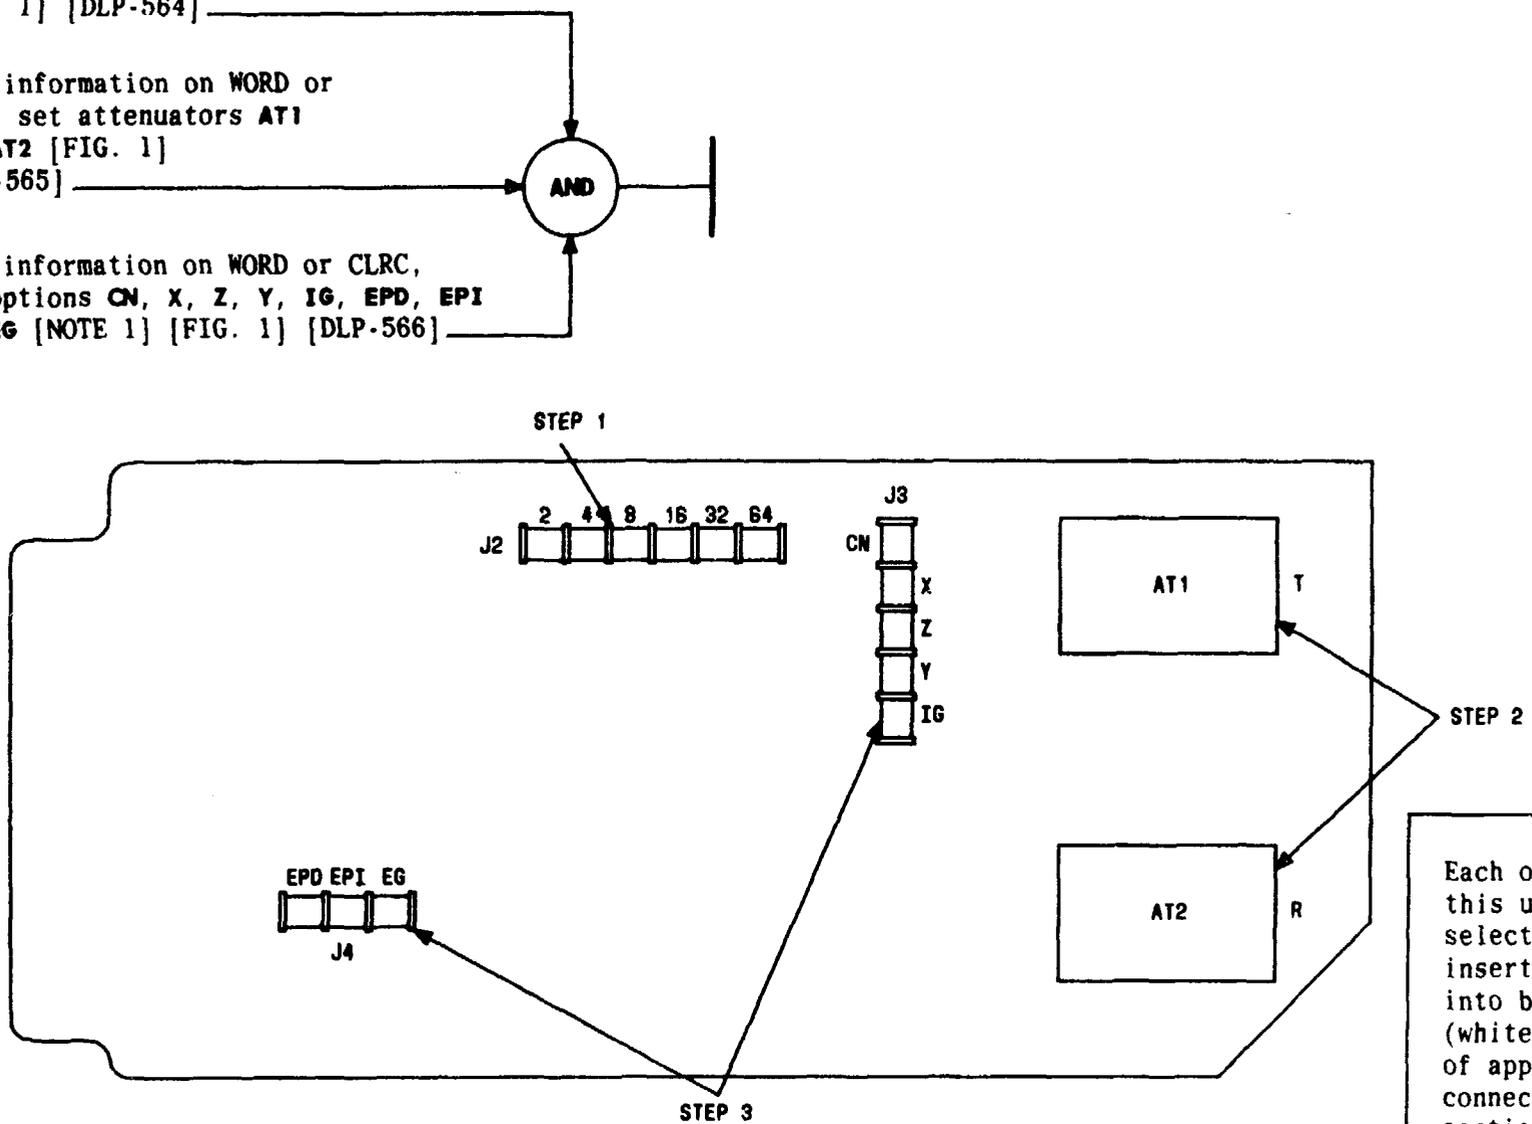

FIG. 1
- [3] From information on WORD or CLRC, set options CN, X, Z, Y, IG, EPD, EPI and EG [NOTE 1] [FIG. 1] [DLP-566]